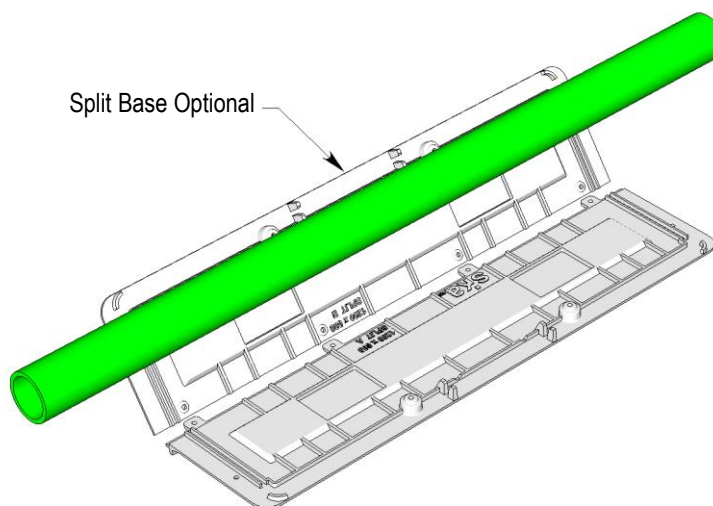

Fig 2
2. Where there is existing ducting and minimal side excavation is required use a **split base**. Ref Fig 2